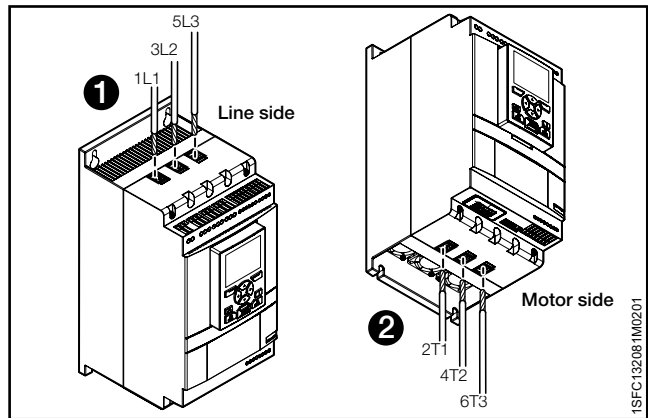

Figure 5.2
Use wire connection for PSTX30...105 see **Figure 5.2**
- Connect the line side to terminals 1L1, 3L2, 5L3, see **1** in **Figure 5.2** and **Figure 5.3**.
- Connect the motor to terminals 2T1, 4T2, 6T3 on the motor side, see **2** in **Figure 5.2** and **Figure 5.3**.